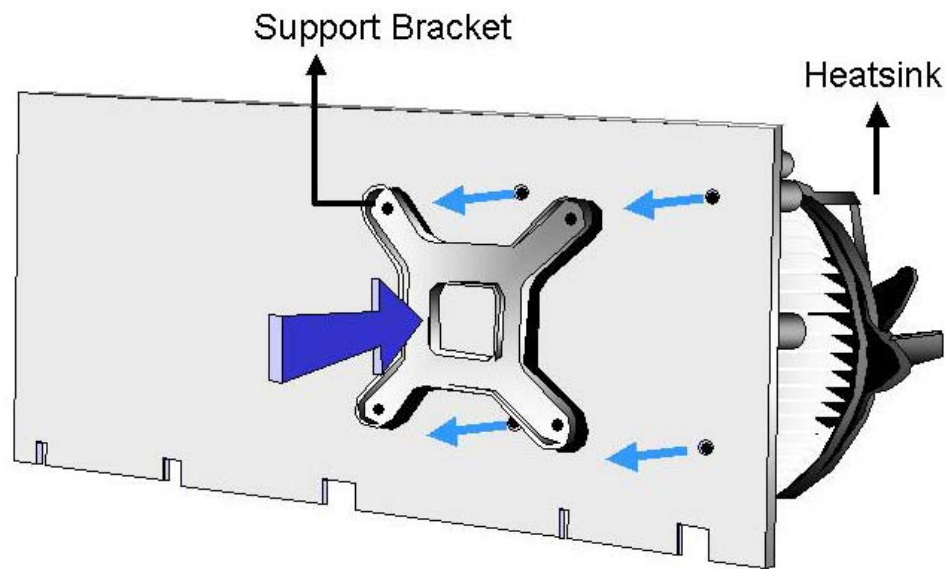

Figure 4-6: Securing the Heat sink to the PCB
- Step 4:** Secure the cooling kit. From the solder side of the PCB, align the support bracket to the screw threads on heat sink that were inserted through the PCB holes. (See Figure 4-6)